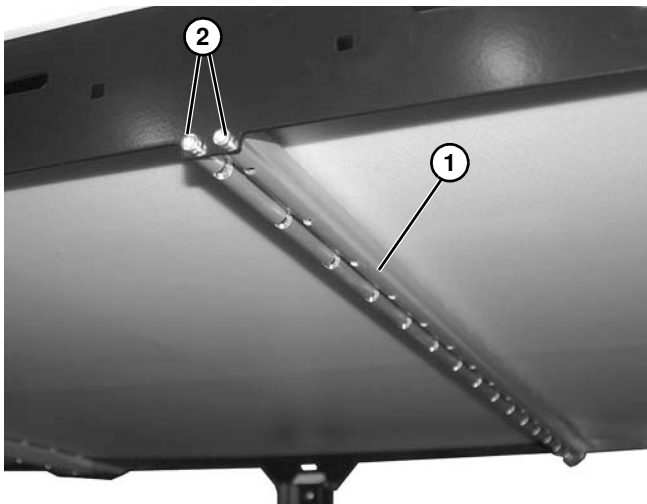

Figure 17
3. Install roller assembly as shown (Figure 17, item 1). Tighten screws (Figure 17, item 2) to 7 Nm (60 in lbs).